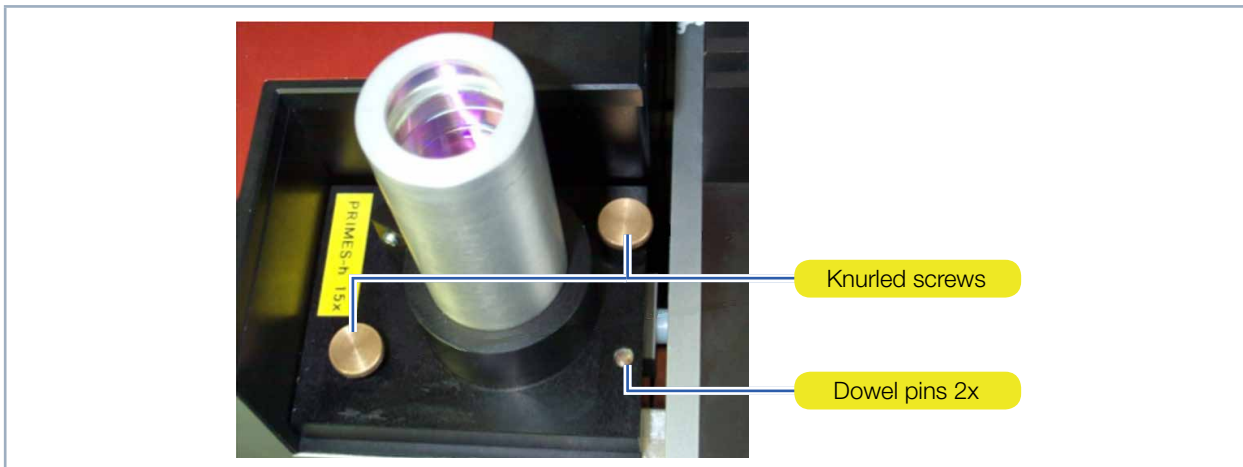

Fig. 13.2: Measuring objective
1. Unscrew the two knurled screws (see Fig. 13.2 on page 85).
3. Place the measuring objective from above on the two dowel pins (see Fig. 13.2 on page 85).